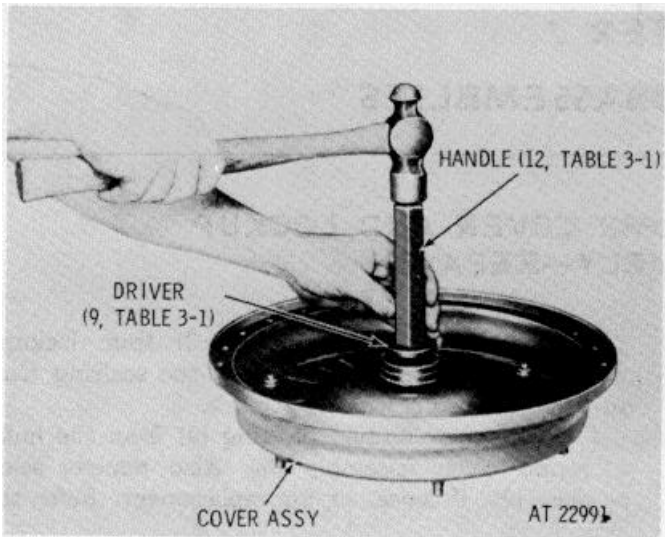

Figure 7-2. Installing bearing into hub of converter assembly
a. If bearing (7) was removed from converter pump cover assembly (5), press in a new bearing. Using handle (12, table 3-1) and driver (9, table 3-1), install the bearing 1.00 to 1.04 inches below the outer bolt ring surface inside of the cover assembly (fig. 7-2).